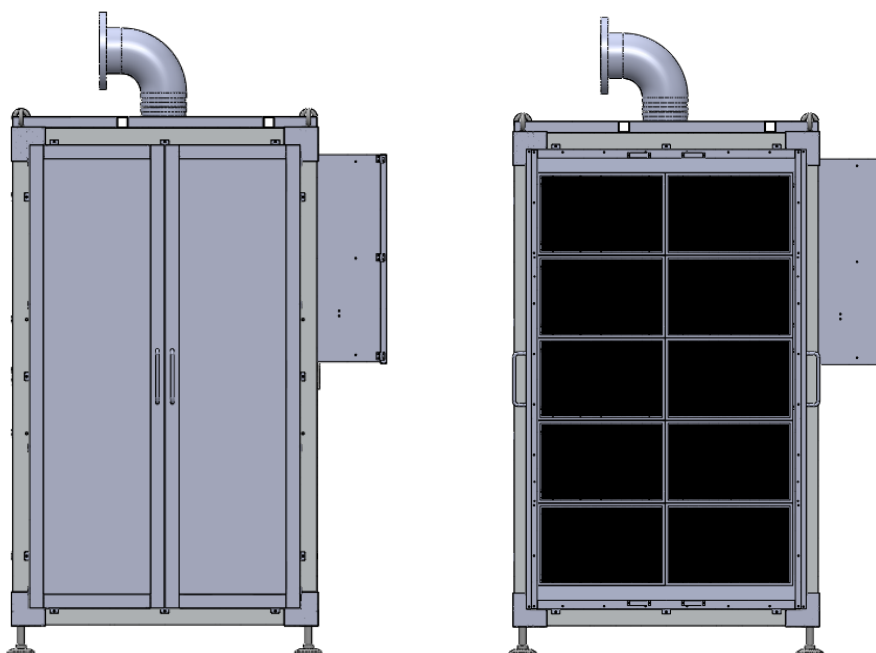

Figure 4-11. Main intake filter Assembly
4.6.1. Table 4-4 shows the specification for main power and ground cable as determined by “KS C IEC 60364-5-52:2004”. Cables should be connected as shown in Figure 4-11(Please follow local regulations.)